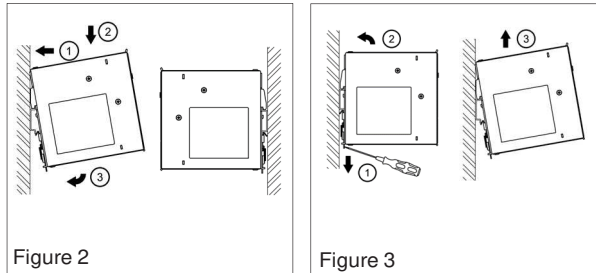
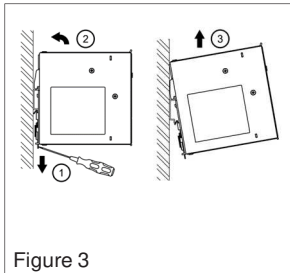

Figure 2
Figure 3
3. Mounting and dismounting (Fig. 2, Fig. 3)
- Tilt the unit slightly upwards and put it onto the DIN rail. Snap on the DIN rail as shown in Fig. 2.
- To uninstall, pull or slide down the latch as shown in Fig. 3. Then, slide the PSU in the opposite direction, release the latch and pull out the PSU from the rail.